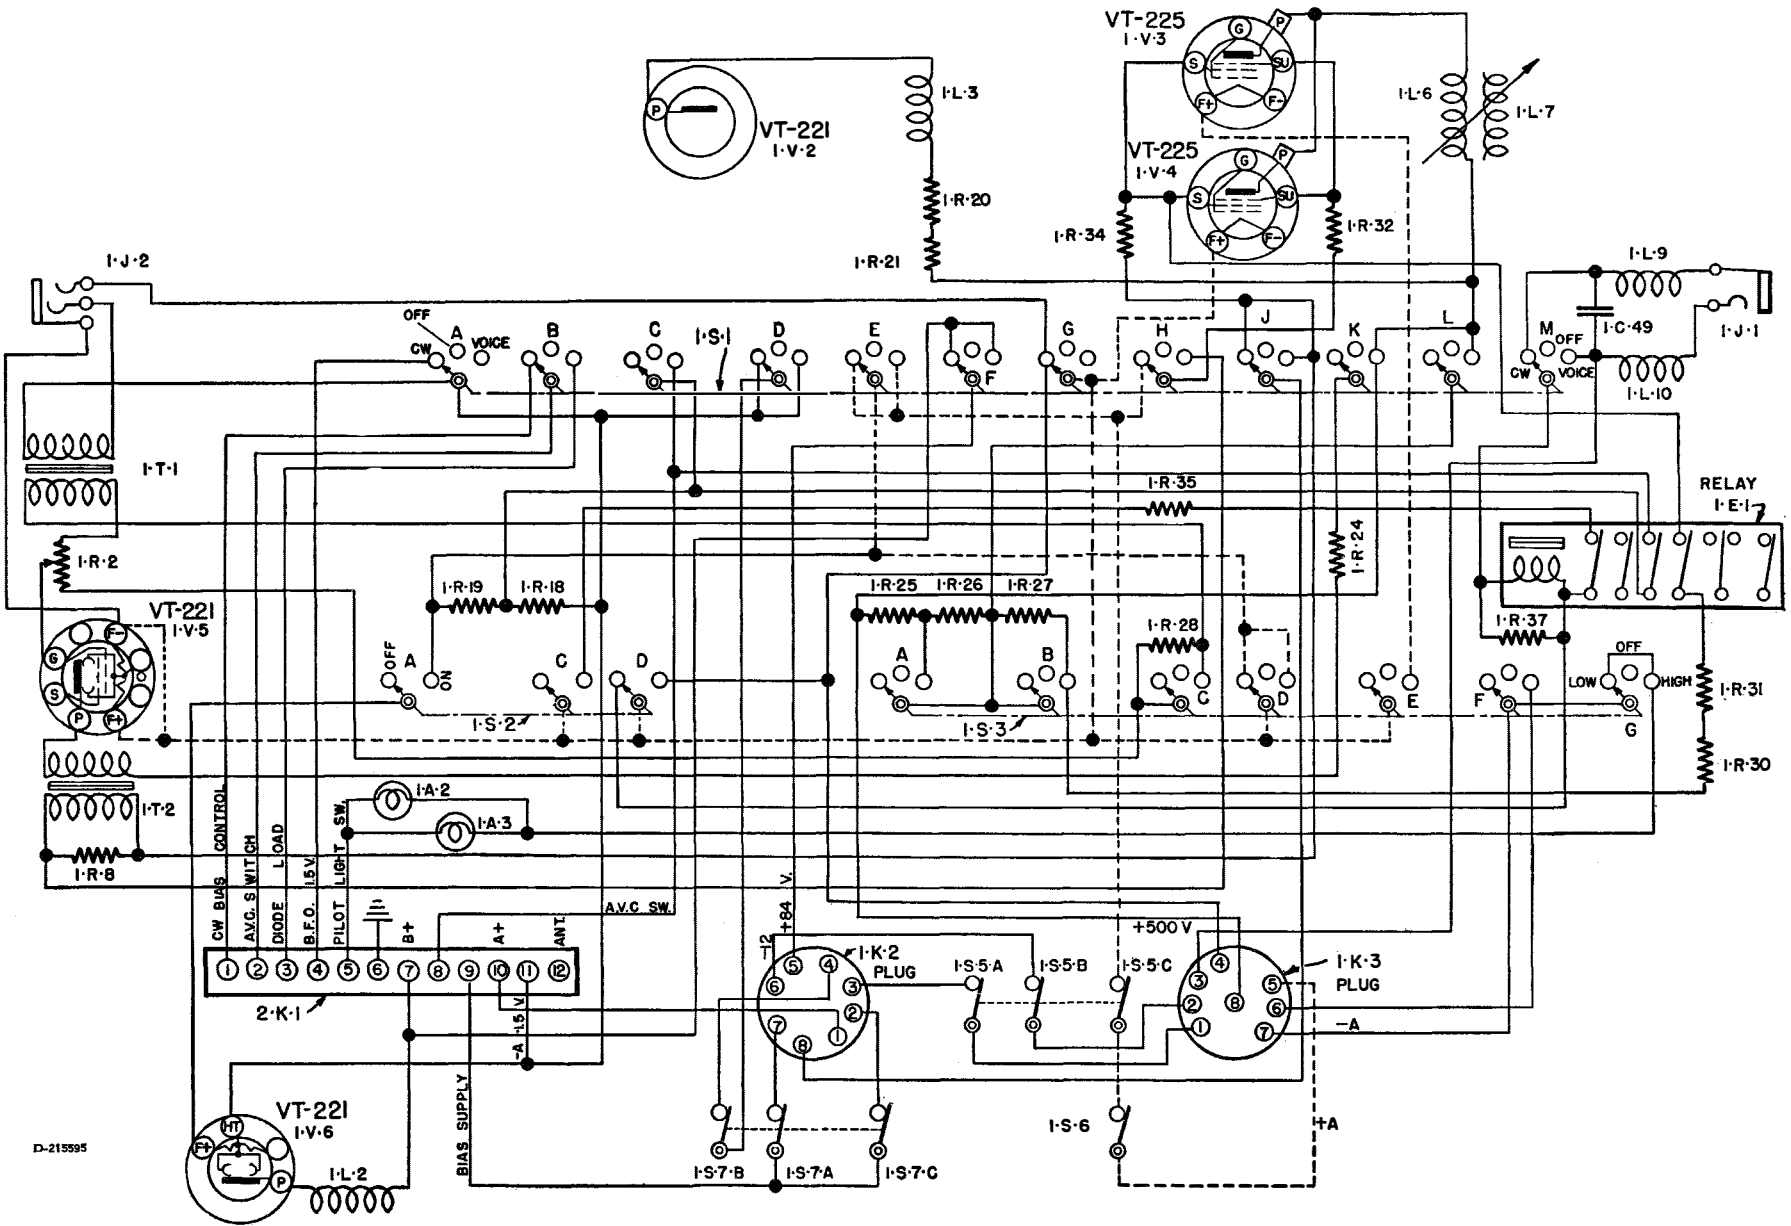

FIG. 17. MASTER CONTROL SWITCHING FOR CIRCUITS
*c. Master Control Switching for Circuits:—* (FIG. 17)
- (1) The multi-section switch (1-S-1) is used to select CW or VOICE operation, or to switch OFF, and is connected as follows: